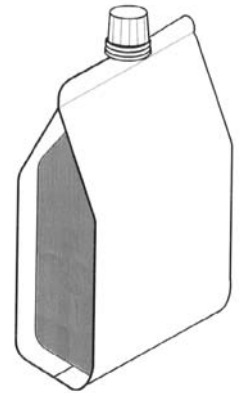

Figure 3
- 2 As a result of the survey the foil container (Figure 3) has been chosen for the new drink.